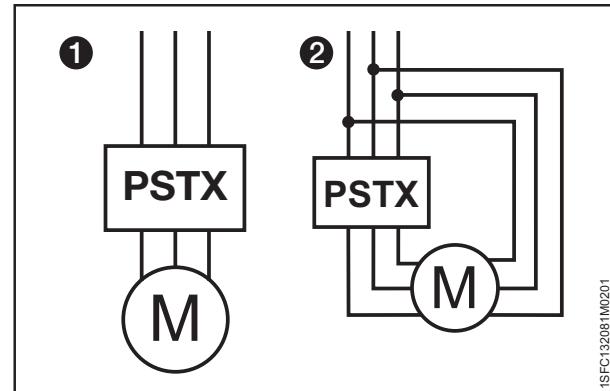
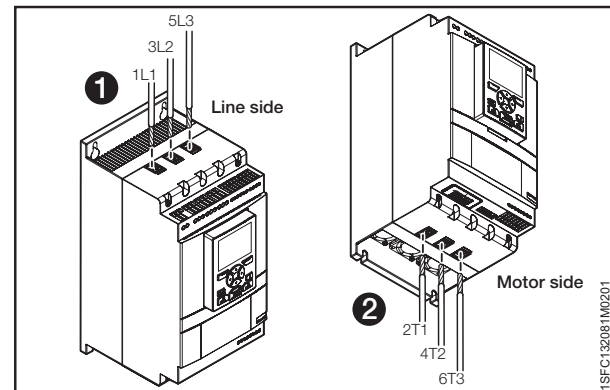
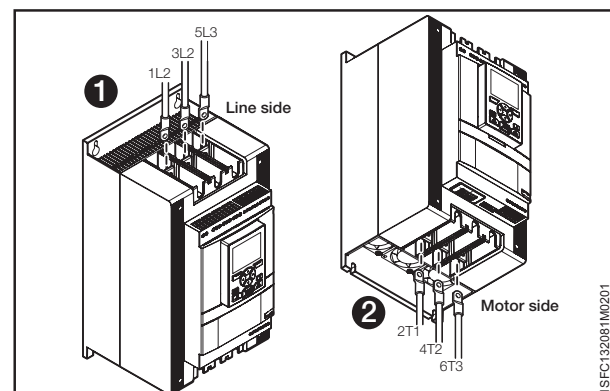

Figure 5.1
Figure 5.2
Figure 5.3
Softstarters PSTX30...PSTX1250 can be connected In Line, see **1** **Figure 5.1**, and Inside Delta, see **2** **Figure 5.1**. Use wire connection for PSTX30...105 see **Figure 5.2** Terminal connection for PSTX142...1250 see **Figure 5.3**.
- Connect the line side to terminals 1L1, 3L2, 5L3, see **1** in **Figure 5.2** and **Figure 5.3**.
- Connect the motor to terminals 2T1, 4T2, 6T3 on the motor side, see **2** in **Figure 5.2** and **Figure 5.3**.